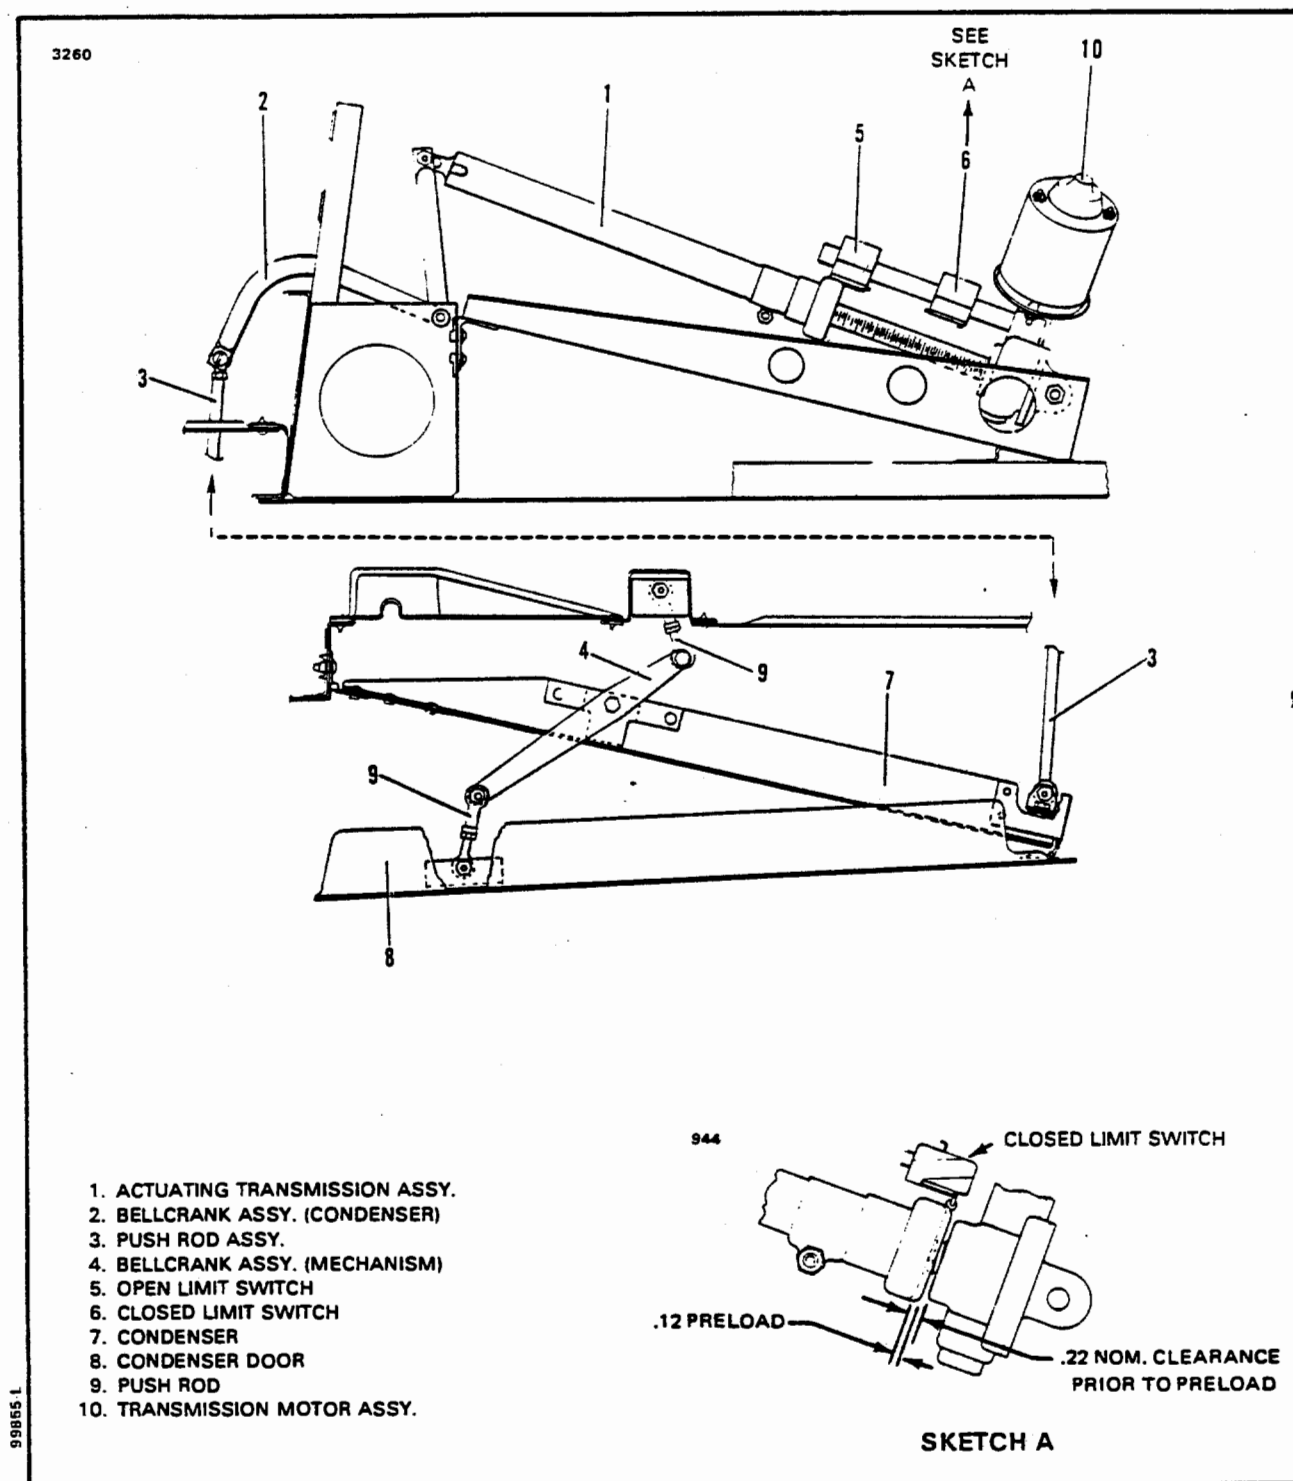

Figure 14-11. Condenser Air Scoop Installation
- b. Place the condenser and frame assembly to the fuselage frame mounting bracket and insert the (8) screws into the piano hinge.
- f. Seal all around forward cover panel (and aft cover panel if removed) with Permagum Bead No. 576 purchased from Prestolite Engineering Company. (See Figure 14-11.)
14-34. CONDENSER DOOR ACTUATOR. The actuator is on a bracket mounted between two bulkheads in the tail cone. It is coupled to the condenser assembly through a bellcrank mounted to a bracket on the bulkhead aft of the condenser. The actuator travel is controlled by two limit switches. Both the up and down switches are located on the actuator. Refer to Figure 14-11 for the switch locations.
14-35. CONDENSER ASSEMBLY RIGGING INSTRUCTIONS. (Refer to Figure 14-11.) The condenser assembly is actuated by an electric motor through bellcranks, push rods and limit switches.
It is necessary for the condenser door to fit flush with the fuselage skin, and with increased force along the forward edge. The following steps will help accomplish this requirement: (Refer to Figure 14-11.)
- b. Adjust the push rods (2) so that a vertically measured gap of .156 of an inch exists along the trailing edge of the door at the instant the forward edge of the door becomes flush with the fuselage skin.
- c. With the door fully closed adjust the "CLOSED" (6) limit switch so that the actuator (4) travels an additional .12 of an inch after the door is fully closed, this is necessary to preload the mechanism. (Refer to Figure 14-11.)